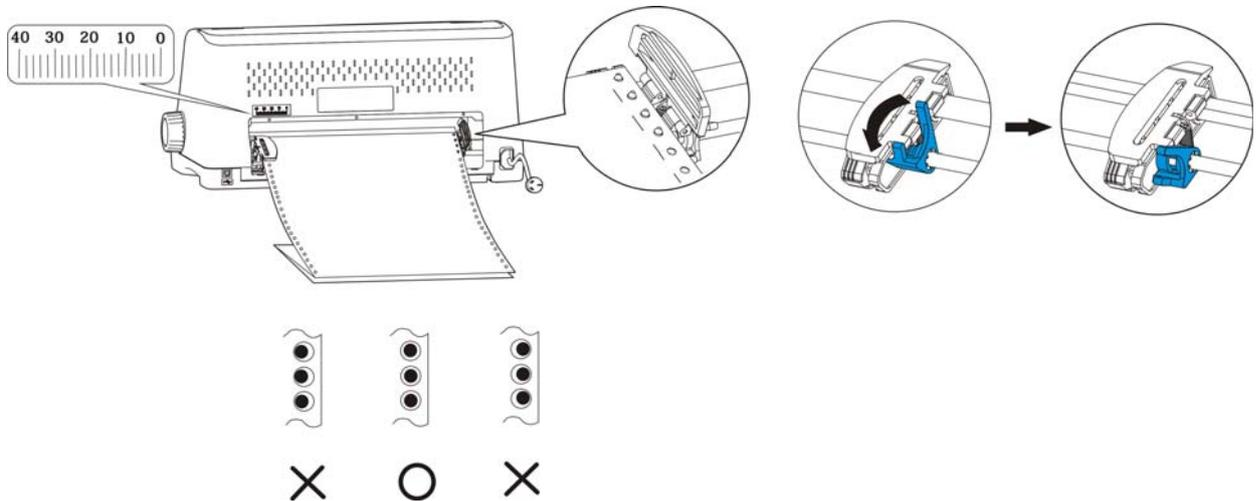

Figure 3-11 Adjust the position of continuous paper
5. Close the sprocket wheel covers, and move the right sprocket wheel to even up the paper, press the sprocket wheel lock lever to lock it (as shown in Figure 3-11).